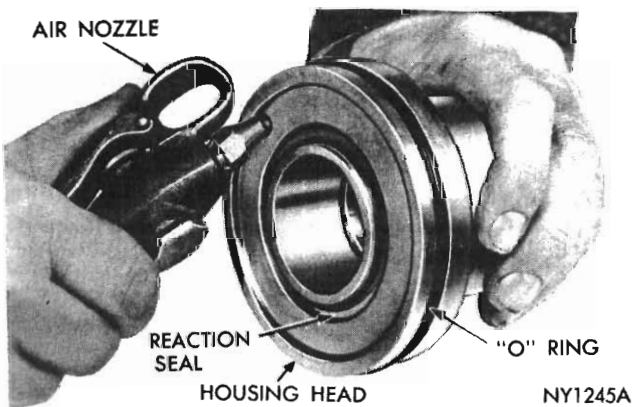

Fig. 14 - Removing reaction seal from worm shaft support
(14) Remove the reaction seal from the groove in the face of the housing head with air pressure directed into the ferrule chamber (Fig. 14).
(15) Inspect all grooves for burrs. Make sure the passage from the ferrule chamber to the upper reaction chamber is unobstructed.
(16) Remove the reaction spring, reaction ring, worm balancing ring and spacer.
(17) Hold the wormshaft from turning with Tool E19C25K then turn the nut with sufficient force to release the staked portions from the knurled section and remove the nut.